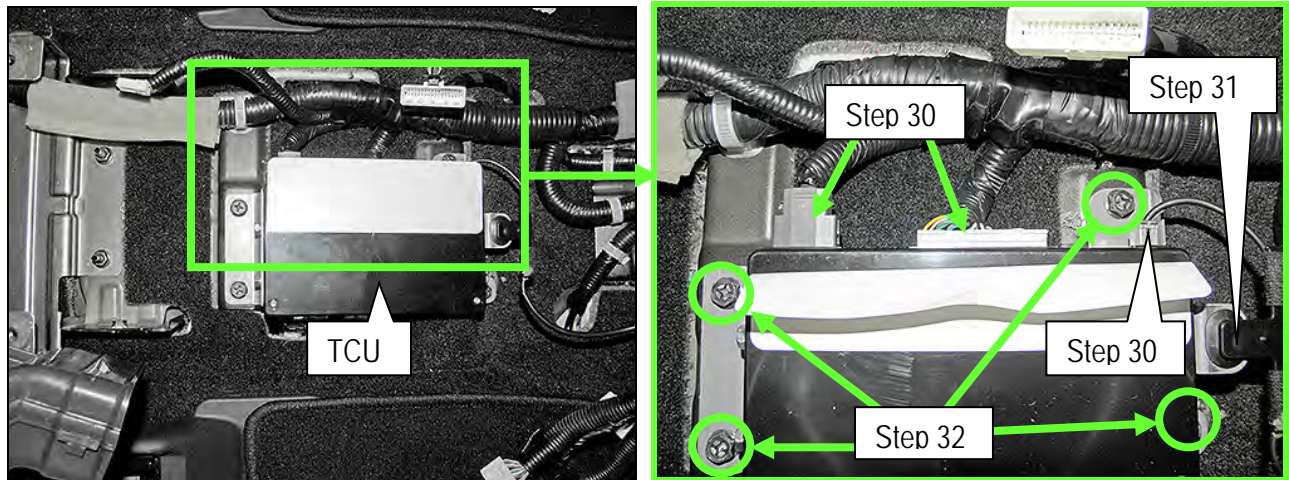

Figure 45B
28. Disconnect the three harness connectors from the TCU (Figure 45B).
29. Unclip the antenna support clip from the TCU bracket (Figure 45B).
30. Unbolt the four bolts that attach the TCU to the vehicle floor (Figure 45B)
- One bolt hidden in Figure 45B.